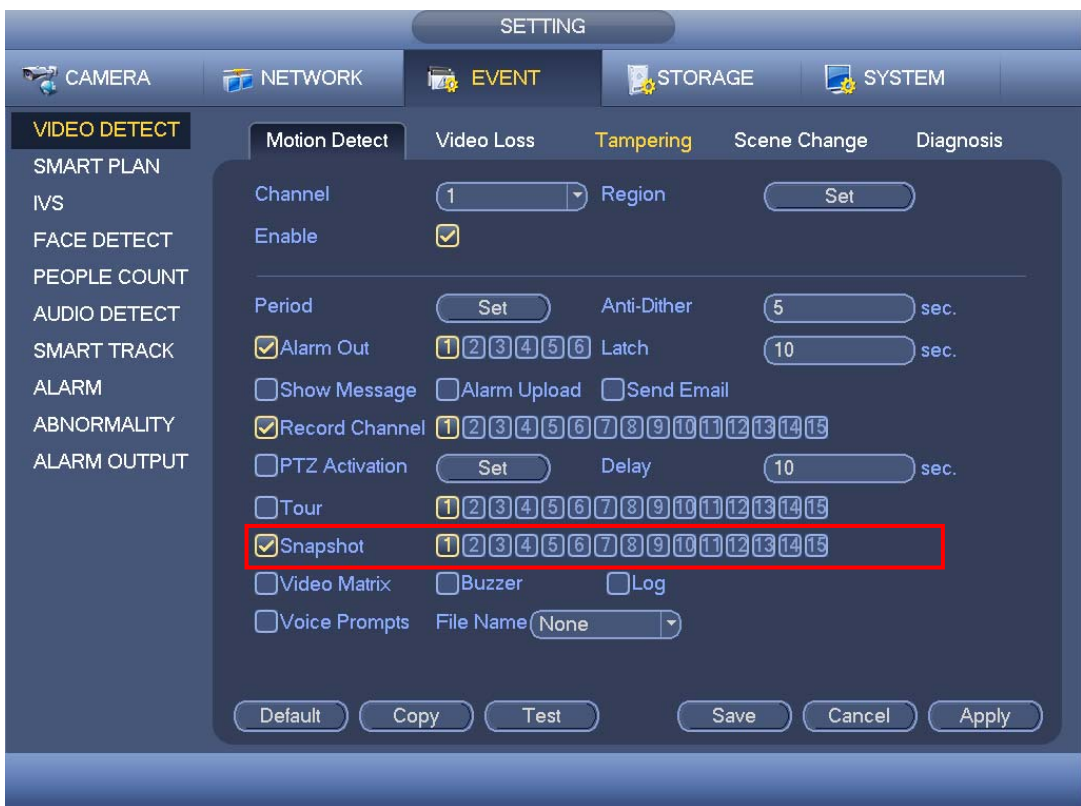
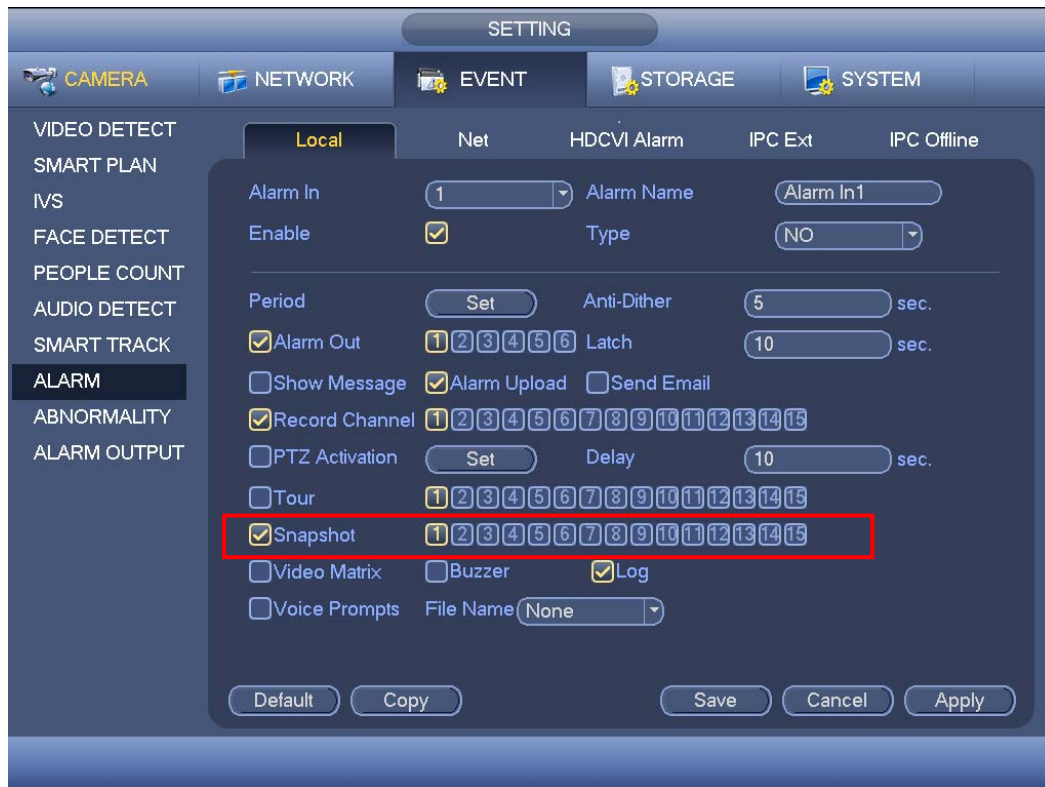

Figure 4-77
Figure 4-78
- In main menu, from Setting->Video detect->Motion detect, please enable snapshot function for specified channels (Figure 4-77). Or In main menu, from Setting->Event->Alarm (Figure 4-78) please enable snapshot function for specified channels.